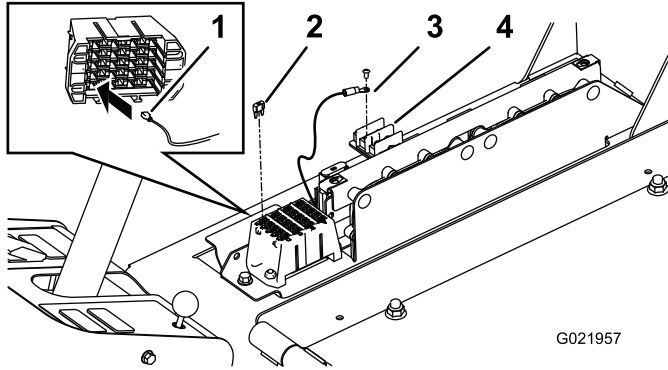

Figure 10
4. Remove the outer screw securing the jumper strip to the ground terminal (Figure 10).
5. Secure the wire harness ring terminal (ground wire) to the jumper strip/ground terminal with the screw previously removed (Figure 10).
6. Plug the wire harness spade connector into the underside of fuse block slot which corresponds to the location on the decal (Figure 10).
7. Insert the 10 amp fuse into the fuse block (Figure 10).
8. Install the power center cover and secure it with the (2) Allen head screws.